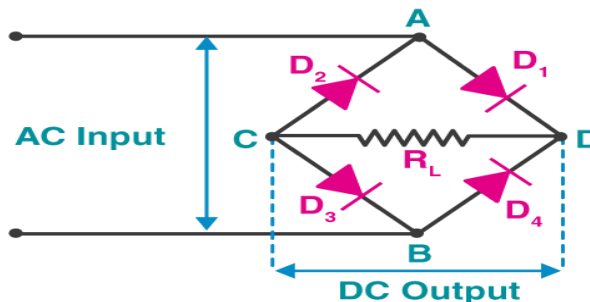

Fig. 4.19 Bridge Rectifier
The construction of a bridge rectifier is shown in the Figure 4.19. The bridge rectifier circuit is made of four diodes D1, D2, D3, D4, and a load resistor R_L . The four diodes are connected in a closed-loop configuration to efficiently convert the alternating current (AC) into Direct Current (DC). The main advantage of this configuration is the absence of the expensive centre-tapped transformer. Therefore, the size and cost are reduced.